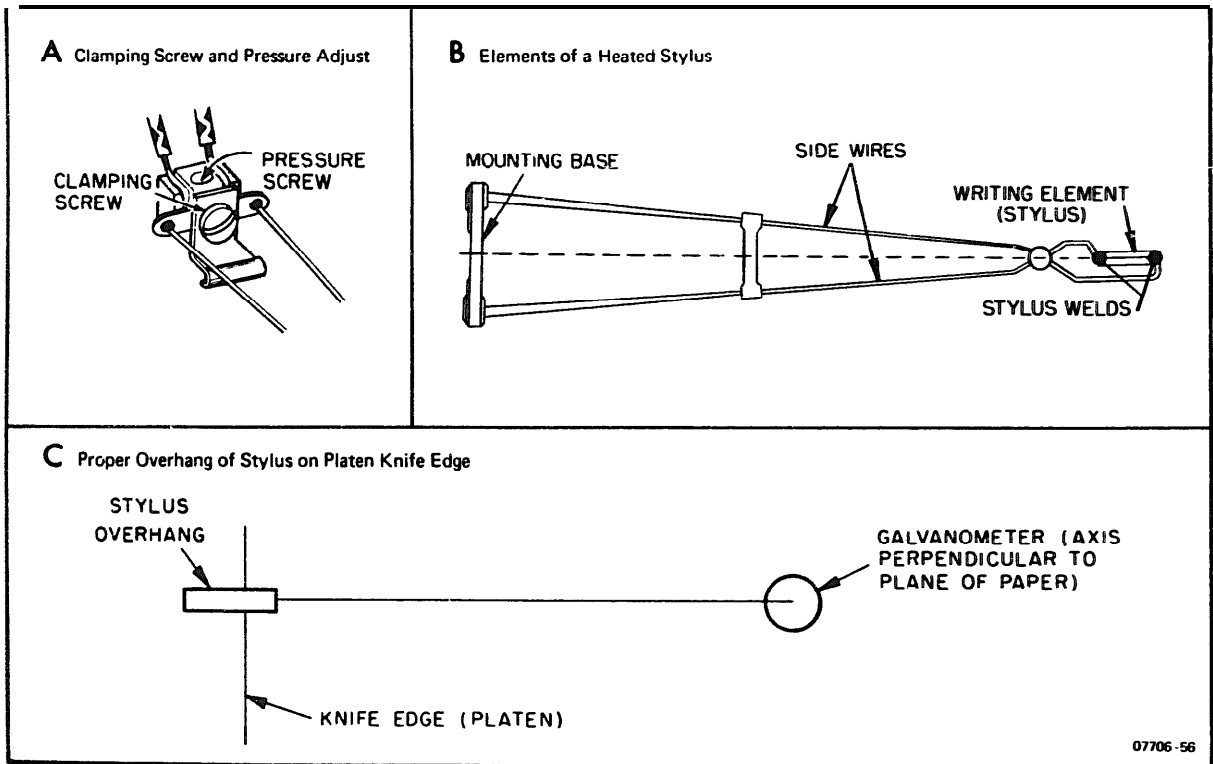
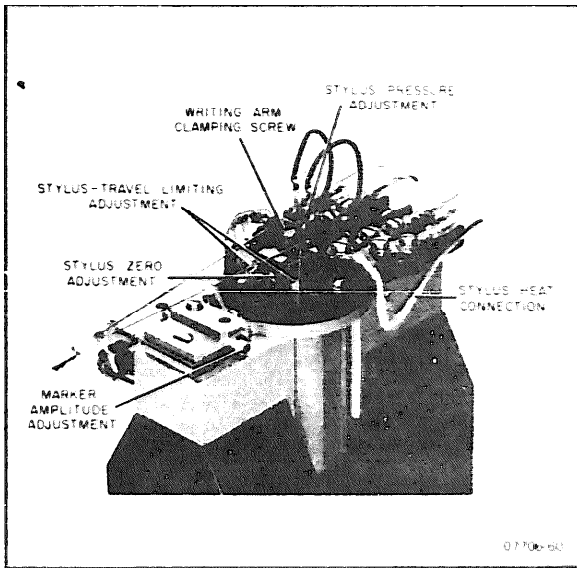

Figure 5-4. Stylus Check and Replacement
Figure 5-8. Stylus Adjustments and Limits
g. Writing Styli. Remove each stylus by loosening clamping screw (see Figure 5-4, lift writing arm straight up. Inspect the writing surface. It should be clean and straight. If the stylus is bent, it sometimes can be straightened with tweezers; if not, replace it. If the stylus is burred or twisted, replace it. Insert good stylus in galvanometer clamp and secure in place. The flexible stylus heater leads should form parallel loops with each other. Tighten the stylus heat lead screws (Figure 5-8). Now check the overhang of each stylus over the writing platen edge (see Figure 5-4). The writing element should overhang 2/3 of its length (the middle 1/3 of the element provides the most uniform heat).
4. **Stylus Deflection.** With the Preamplifier POSITION controls set alternately to the extreme rotation points, check the stylus deflection. The mechanical stops on the galvanometers should limit deflection to not more than 2 mm beyond the edge of the recording channel (or 1 mm when writing arm motion is toward an adjacent marker arm) (Figure 5-8).
5-40. Check stylus pressure with the calibrated pressure gage 14015A (see Figure 5-7). Lift the stylus at the center of the heating element support wire. Lift as close to 90° as possible. The stylus setting should be 2 grams. Run the recorder at 5 mm/sec speed. Lift the stylus with the gage until the stylus stops writing on the paper; the gage should read 2 grams. If the pressure is not correct, adjust the stylus pressure screw (Figure 5-8). Turn clockwise for less pressure and counterclockwise for more pressure. The adjustment should be made 1/4 turn at a time. Check that the stylus remains level with the paper for correct definition.
5-42. Run the recorder at high speed with the marker held for continuous operation. If the marker trace amplitude is insufficient, the amplitude can be adjusted approximately 3 mm. Use a No. 10 Allen wrench and adjust the setscrew located at the side of the marker (Figure 5-8). Adjust through the coil opening. Access is through the recorder side plates (recorder extended) for right or left marker.
5-44. The mechanical stops prevent the stylus excursions from exceeding 2 mm beyond the channel edge or 1 mm toward an adjacent marker arm. Set these limits by loosening the stylus Travel Adjustment screw with a screwdriver, setting the stops and tightening the screw. Refer to Figure 5-8 for screw location.
5-46. The proper position for the stylus heating ribbon on the platen is shown in Figure 5-4. In the center of the channel, the ribbon overhang is approximately two-thirds of its length, which is required for a constant density trace when the stylus moves to its positive and negative maximum positions. The center
one-third of the ribbon provides the most even heat gradient. Improper stylus overhang can be suspected when the trace density is uneven and the stylus appears otherwise in good condition, i. e., the ribbon is not bent or twisted, etc. To adjust for overhang error, refer to Figure 5-8. The callouts refer to Channel 1 adjustments, which are typical for all channels.
Loosen the setscrew at the bottom of the stylus adapter slightly (Figure 5-8) with the spline wrench supplied; see Accessories in Section I.